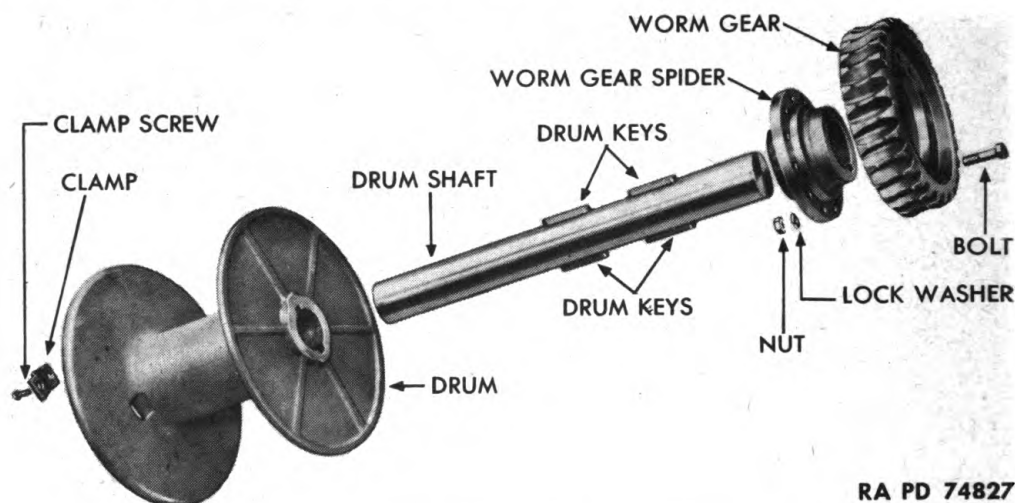

Figure 27 — Drum and Shaft — Disassembled
46. DRUM AND SHAFT (fig. 27).
c. Assembly (fig. 27). Press worm gear spider on drum shaft, and install worm gear on spider, securing with 12 bolts, nuts, and lock washers. Install two drum keys on shaft, and install shaft in drum. Install clamp and clamp screw on drum.